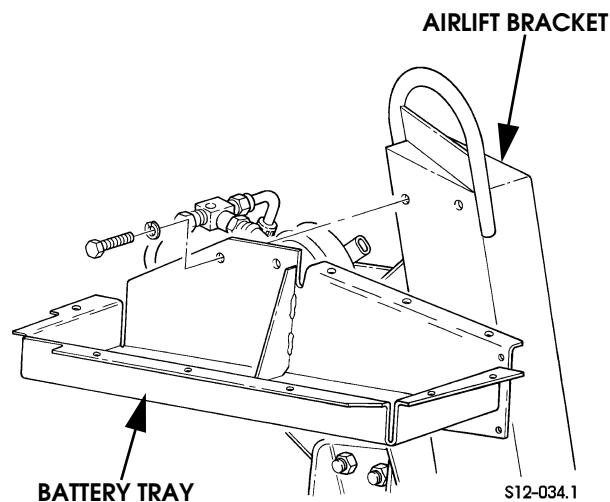

Figure 12-31: Battery Tray
3. Remove battery tray from airlift bracket (Figure 12-31).